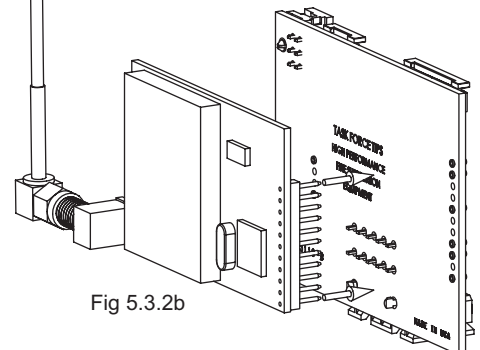

Fig 5.3.2b
- 4) Plug radio board into communication board. (figure 5.3.2b) Be careful to line up pins.